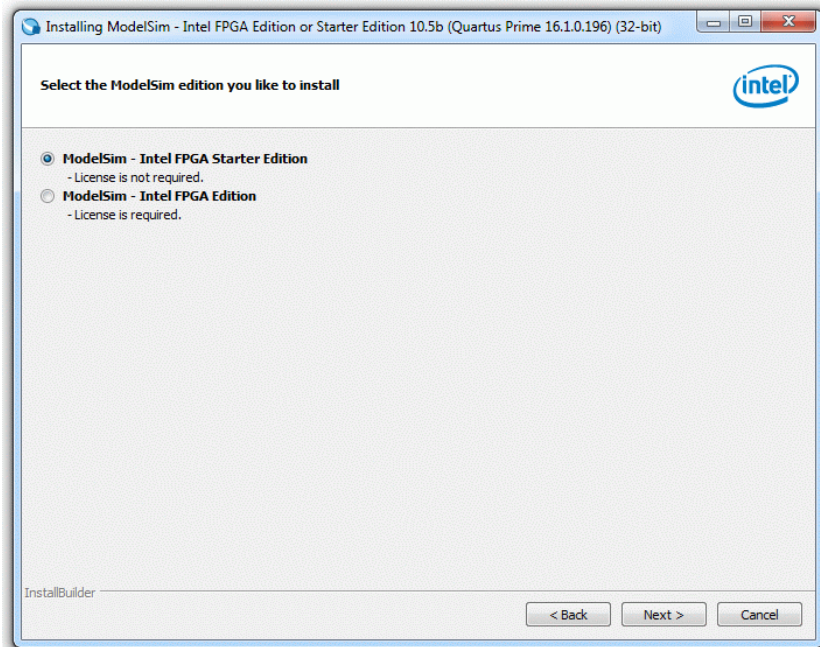

Figure 2: ModelSim installation (Part 2)
2. Select ModelSim-Intel FPGA Starter Edition and click “Next >” (Figure 2).